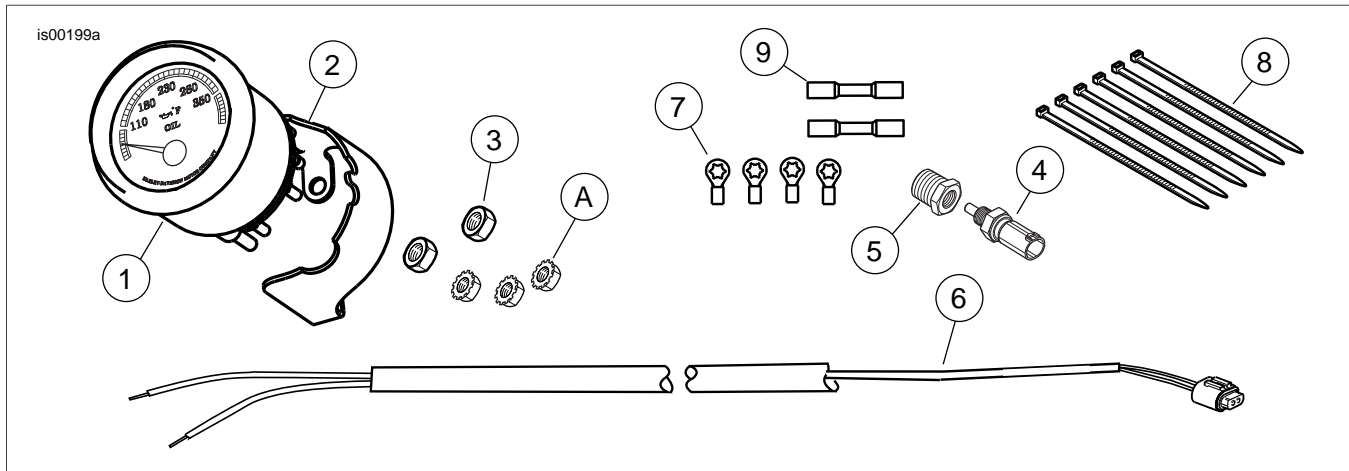

Figure 3. Service Parts, Fairing Mount Two Inch Oil Temperature Gauge
See Figure 3 and Table 2.
- See Figure 3. Obtain the oil temperature gauge (1) from the kit. From the rider position, rotate the gauge to align the face legend horizontal to the rider, and push the gauge into the fairing.
- From the front of the vehicle, slide the gauge mounting bracket (2) over the threaded gauge studs to engage the tabs of the bracket into the inner fairing.
- Install two locknuts (3) and tighten to 10-20 in-lbs (1.1-2.3 Nm).
- See Figure 3. Obtain the oil temperature sending unit (4) and adapter fitting (5) from the kit. Coat the clean threads of the adapter fitting with Loctite 565 Thread Sealant, and install the fitting into the pipe plug hole in the oil pan.